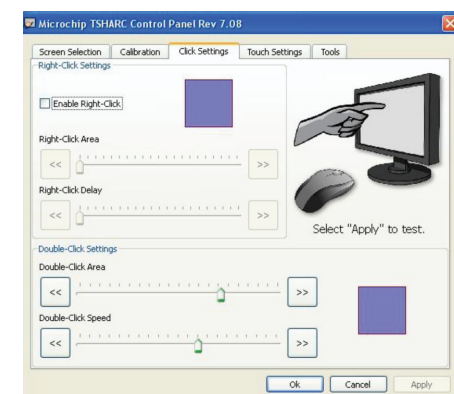

Figure 11
1. **Right Click.** There is a "timed hold" right-click mouse event. This allows the user to initiate a "right click" by holding down a touch point for a specified period. Check the "Enable Right-Click" box to enable the right click option. (Figure 11)